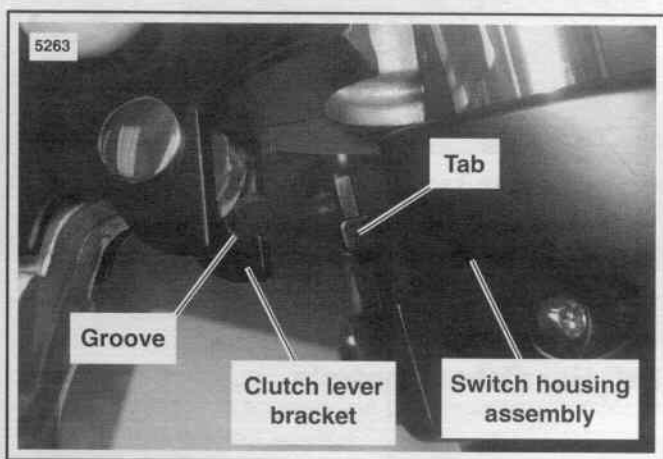

Figure 8-67. Fit Clutch Lever Bracket to Left Handlebar Switch Housings
- See Figure 8-67. Position the clutch hand lever assembly inboard of the switch housing assembly, engaging the tab on the lower switch housing in the groove at the bottom of the clutch lever bracket.